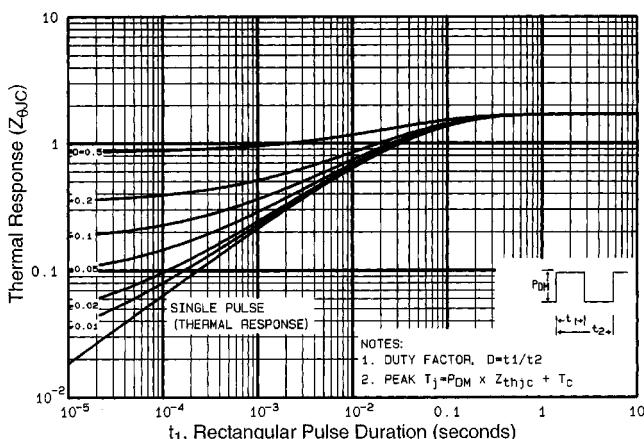

Fig 11. Maximum Effective Transient Thermal Impedance, Junction-to-Case
① Repetitive rating; pulse width limited by max. junction temperature (See Figure 11)
③ $I_{SD}\leq-6.5\text{A}$, $di/dt\leq120\text{A}/\mu\text{s}$, $V_{DD}\leq V_{(\text{BR})\text{DSS}}$, $T_J\leq150^\circ\text{C}$
② $V_{DD}=-50\text{V}$, starting $T_J=25^\circ\text{C}$, $L=17\text{mH}$